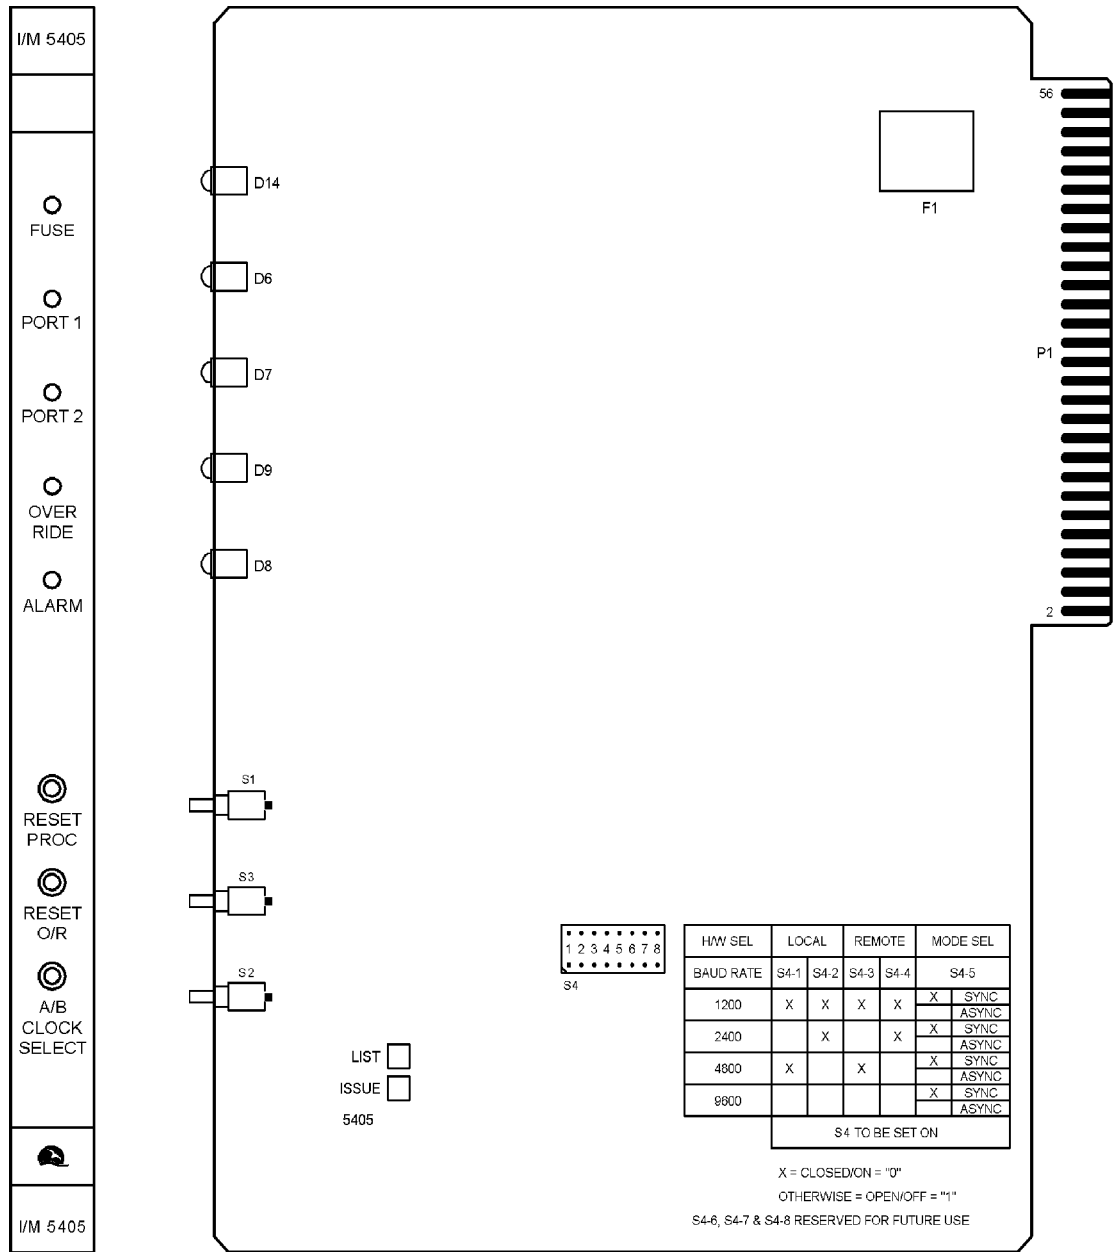

Figure 3-6. Model 5405 Information Management Card with Front Panel
3.351 For switch locations and front panel of the Model 5405, refer to Figure 3-6.